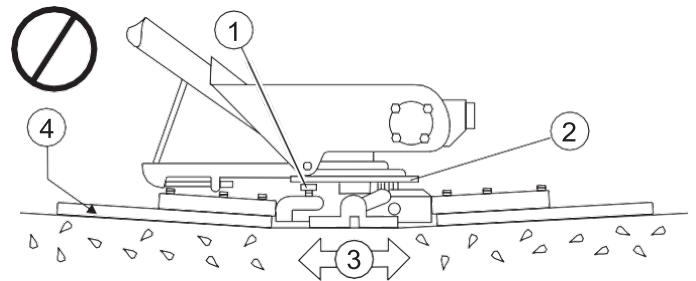

FIGURE 17
13.2.2 Pitch the blades as flat as possible. The adjustment bolts should all barely make contact with the lower wear plate on the spiderbox. If one is not making contact, adjustment will be necessary. (Figure 17 **FIGURE 4**).
Figure 17 illustrates, "incorrect alignment", worn spider bushings or bent trowel arms. Check that the adjustment bolt is barely touching (0.10" max. clearance) lower wear plate. All alignment bolts should be spaced the same distance from the lower wear plate.